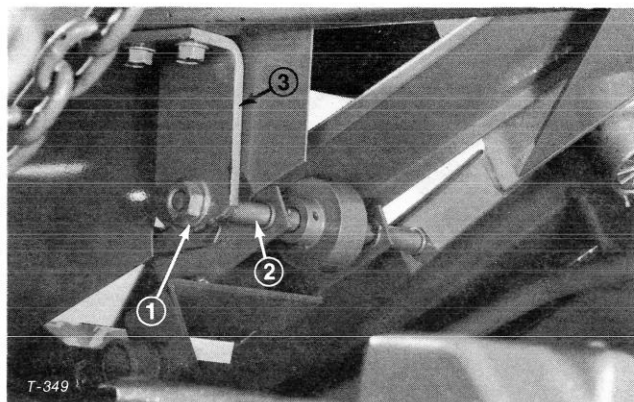

Figure 14
1. Remove nut securing traction pedal shaft to bracket (Fig. 14).